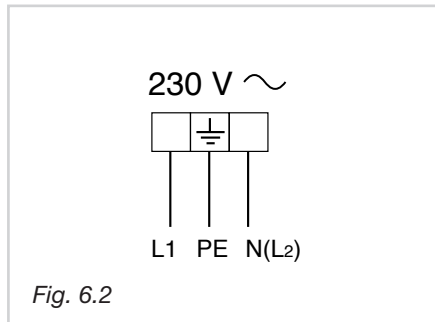

Fig. 6.2
- ✓ The electrical cable must be connected to the terminal board following the diagram of Fig. 6.2.